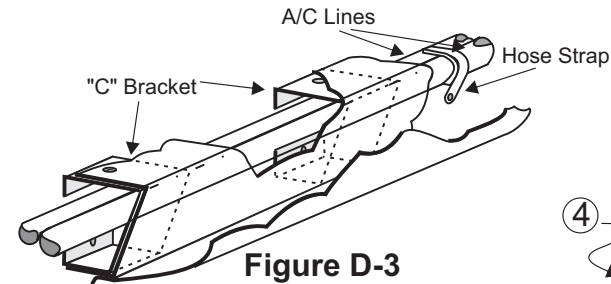

Figure D-3
3. Along the 2 outside lines, measure 1/2" (measure 1/4" for Suburban) inward from the inside edge of the pinch weld and mark a point on each of the two lines, then drill a 3/8" hole at these two points. (**Note: Make sure that the area is clear of obstacles before drilling) Use a center punch and 1/8" bit to drill a pilot hole first to achieve the best results. For Suburban: Be sure the air conditioning lines are out of the drilling path (see Fig. D-3).